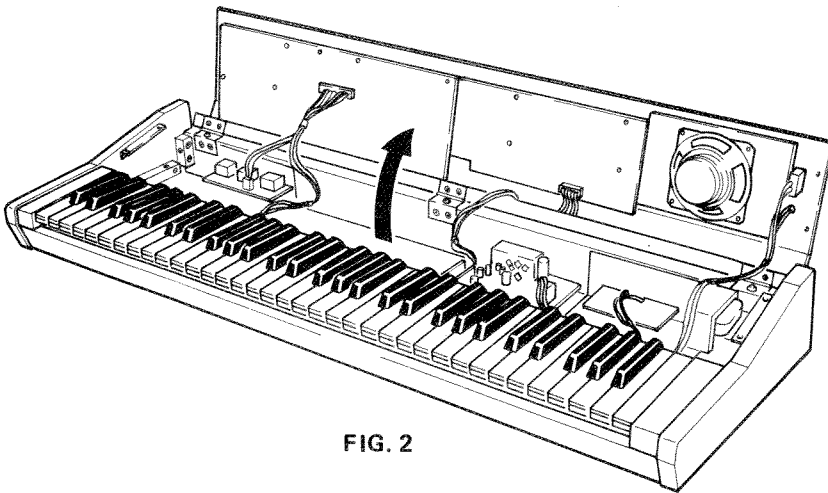

FIG. 2
- Lift the control panel as shown in the figure 2 until it is fully opened.